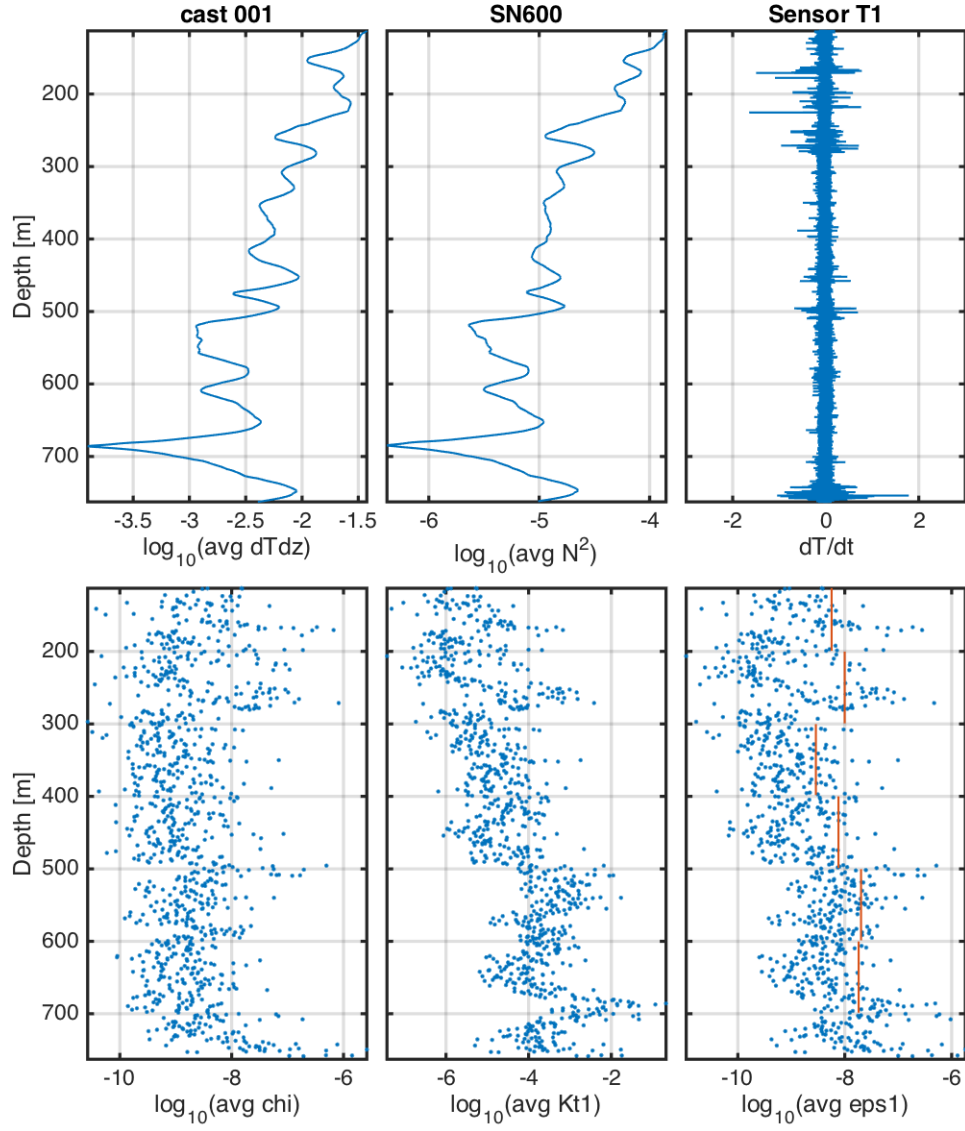

Figure 6: Results of chipod calculation for one cast. Red lines in lower panel are 100m binned averages.
- `cast_001_upcast_chi_SN600_T1_avg_chi_KT_dTdz` (Figure 6). Summary of the final data ('avg' structure).